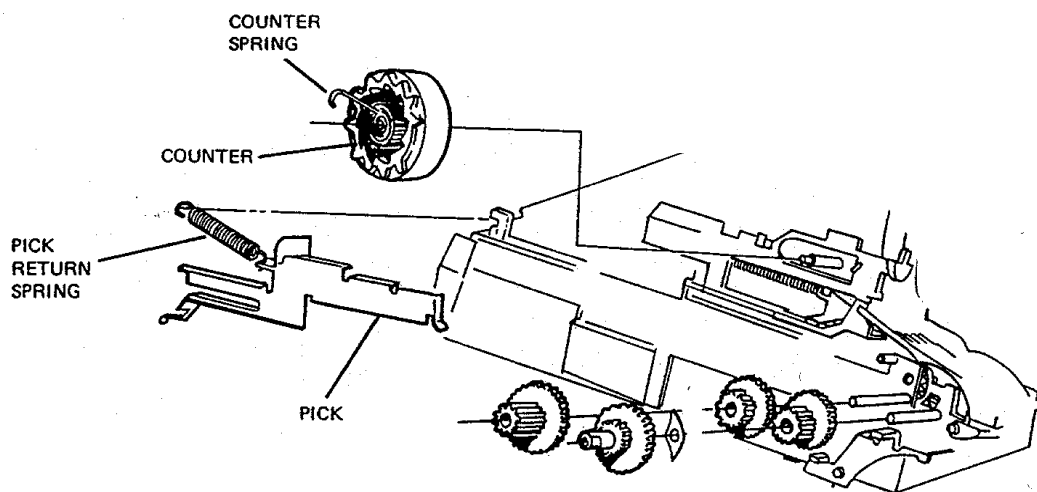

Fig. 50 Replacing Pick and Return Spring
61. Install the Pick, with Return Spring attached, as shown in Fig. 50. Attach Spring to housing and be sure Pick slides freely.